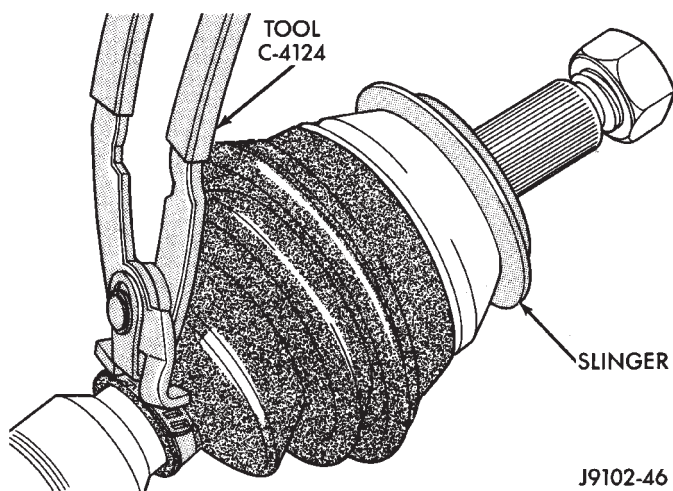

Fig. 7 Compressing Clamp Bridge
(4) Compress the clamp bridge with Remover/Installer C-4124. Squeeze the tool handles to complete the tightening of the clamp (Fig. 7). **Care must be exercised when using the tool to avoid cutting through the clamp bridge or damaging the boot.**
(7) Verify that the boot is not twisted and that it is correctly positioned on the housing.
(8) Install the large ladder clamp on the boot and secure as done with the small ladder clamps (Fig. 7).
(9) Slide the outer C/V joint boot small clamp onto shaft.
(10) Slide outer C/V joint boot onto shaft and into position on shaft.
(11) Install small clamp to boot as done above.
(12) Install large boot clamp over outer C/V joint.
(13) Install outer C/V joint to shaft.
(14) Install large boot clamp to boot and C/V joint.
(15) Install the C/V driveshaft.